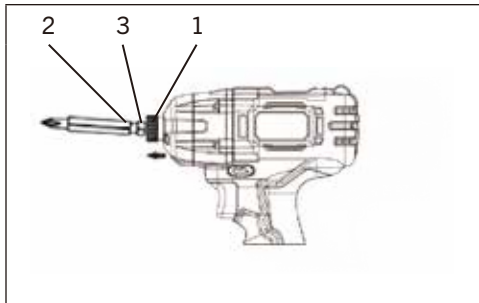

FIG. 4
1. Pull outward on the quick release chuck (1) (Fig. 4).
2. Insert the grooved end of the impact driver bit holder. (2) into the chuck (3) of the tool.
1. Select the correct screwdriver bit for the screw being driven and install it in the collet (Fig. 4).